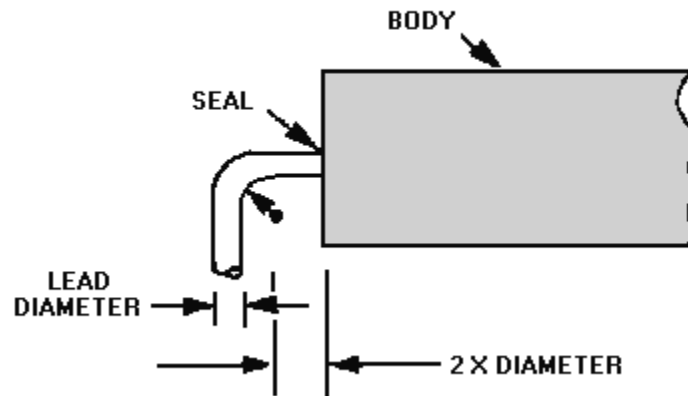

Figure 3-13.—Minimum distance lead bend to component body.
- The minimum distance between the seal (where the lead enters the body of the component) and the start of the lead bend must be no less than twice the diameter of the lead, as shown in figure 3-13.